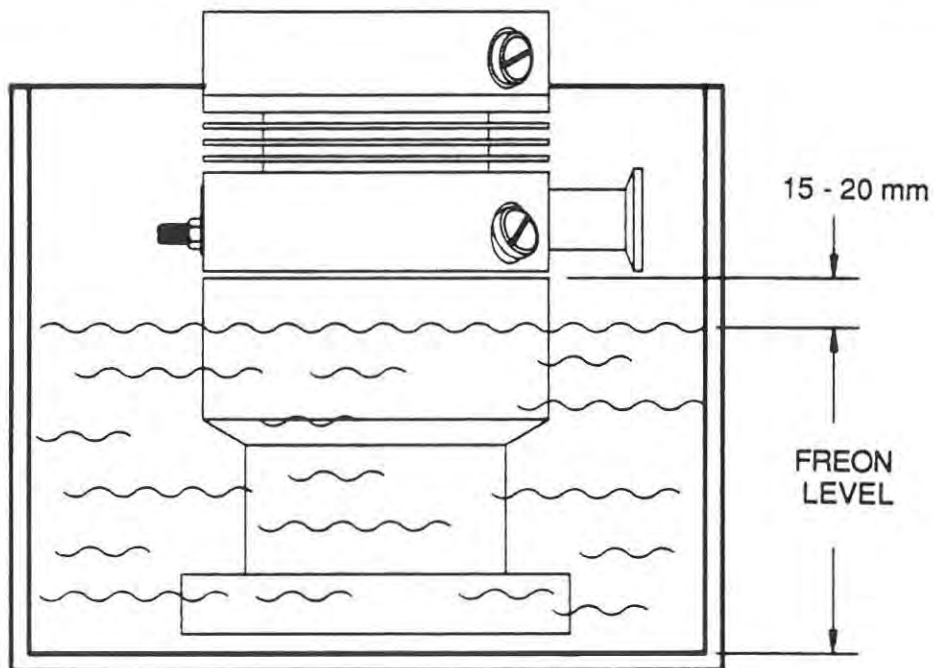

Figure 5-9. Turbo Pump Cleaning Procedure
- 1 Prepare a large, very clean container (large enough to put the turbopump in as shown in Figure 5-9) and fill it with **CLEAN** Freon TF.